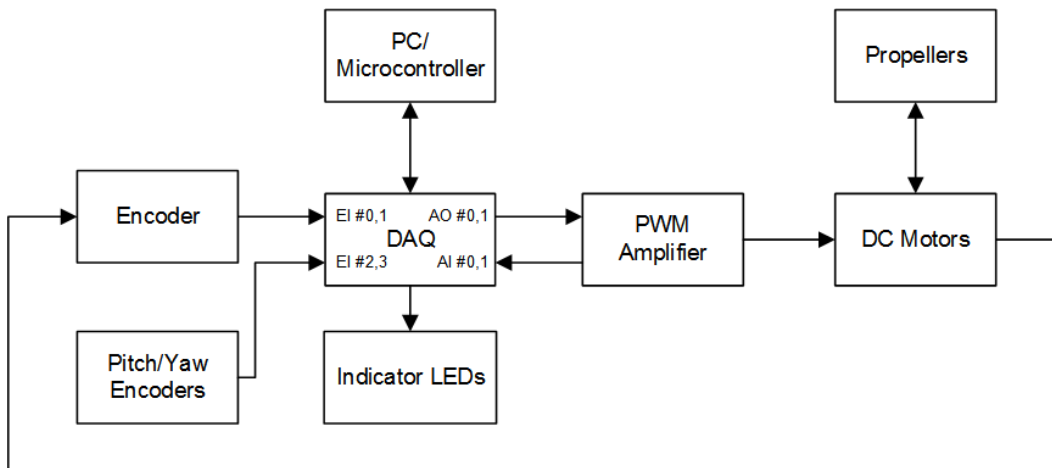

Figure 2.1: Interaction between Quanser Aero components.
The interaction between the different system components on the Quanser Aero is illustrated in Figure 2.1. On the data acquisition (DAQ) device block, the motor position encoders are connected to Encoder Input (EI) channels #0 and #1. EI2 reads the pitch angle of the Aero body, and EI3 reads the yaw angle of the yoke. The Analog Output (AO) channels are connected to the power amplifier command, which then drives the DC fan motors. The DAQ Analog Input (AI) channels are connected to the PWM amplifier current sense circuitry. The DAQ also controls the integrated tri-colour LEDs via an internal serial data bus. The DAQ can be interfaced to the PC or laptop via USB link in the QFLEX 2 USB, or to an external microcontroller via SPI in the QFLEX 2 Embedded.